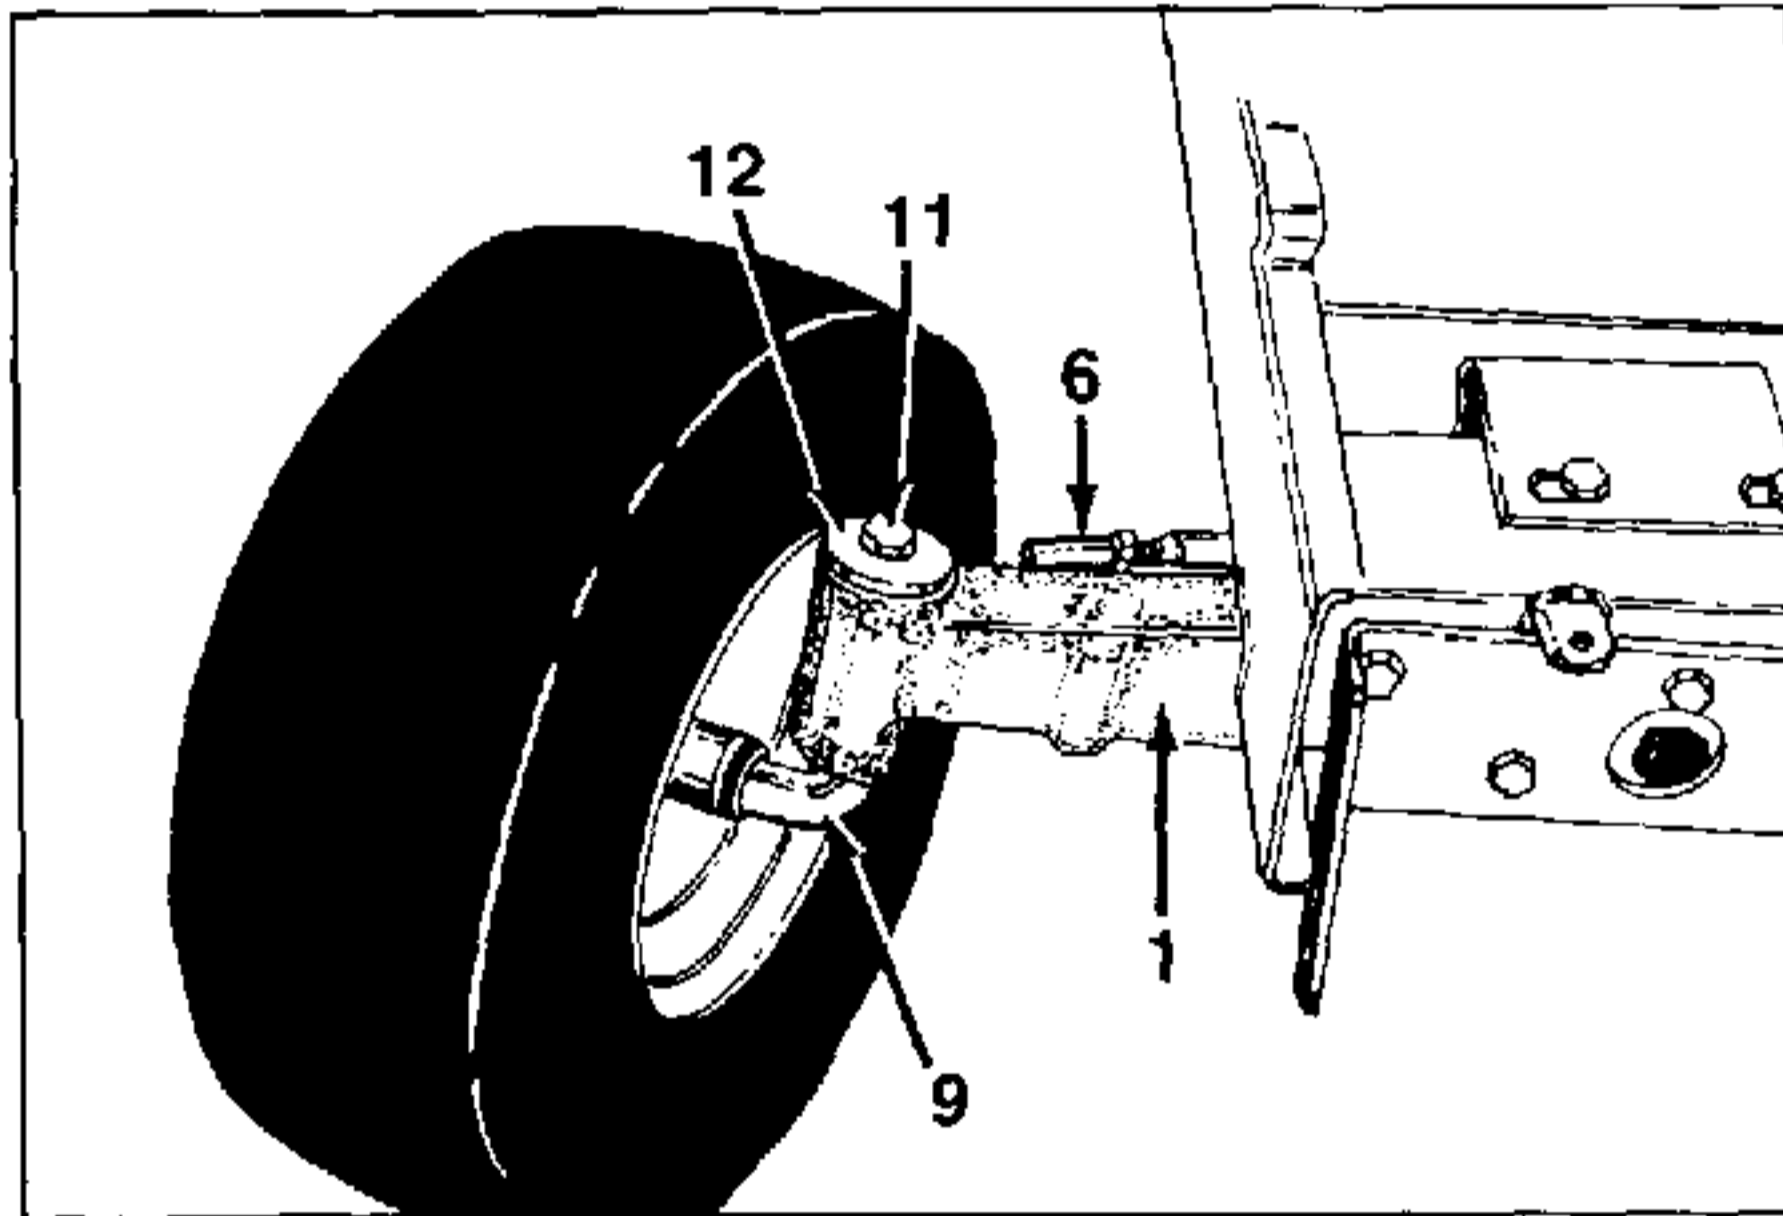

FIGURE 3.
6. Remove the retaining bolt (Ref. 11) and the right axle assembly (Ref. 9). See figure 3.